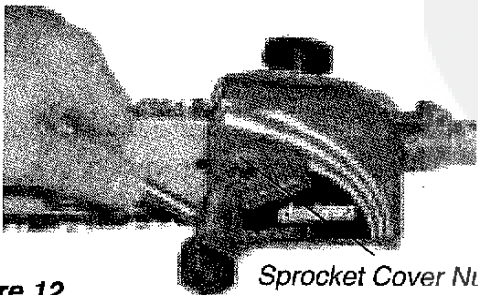

Figure 12
2. Loosen the sprocket cover nut with the plug wrench. See Figure 12.